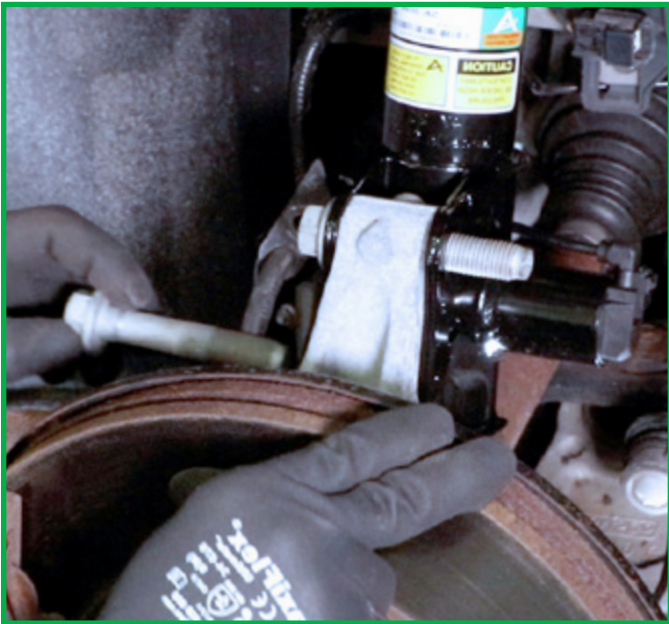

FIGURE 18
3. Reinstall the two (2) bottom strut mount bolts/nuts. Tighten to manufacturer's specifications. (Figures 18, 19)